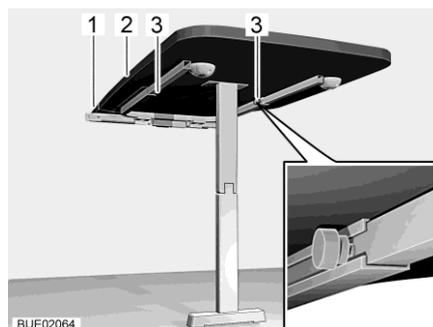

Fig. 137 Suspension table with fold-out leg
- Release two knurled screws (Fig. 137,3).
- Raise the table top (Fig. 137,2) slightly and pull it out as far as possible. The table extension has now been fully pulled out.
- Insert the table top extension (Fig. 137,1) into the table extension.
- Slightly lift the front of the table top (Fig. 137,2) and pull out.
- Remove the table top extension (Fig. 137,1) and store it securely.